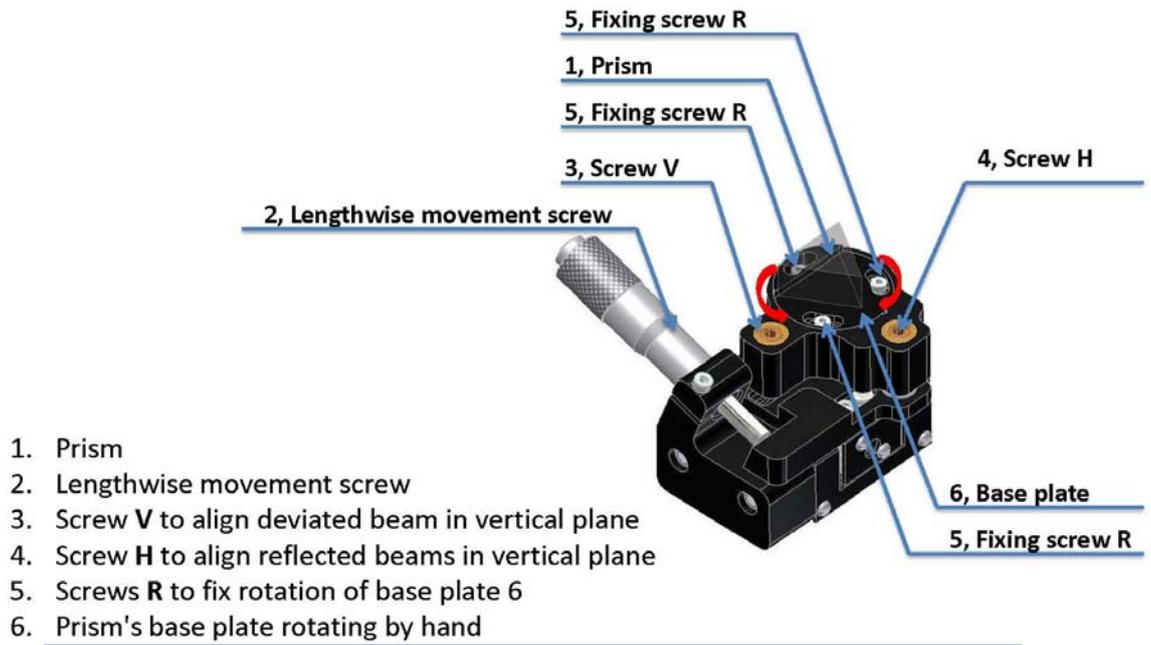

Fig. 12 Schematic picture of prisms fixation and service
- *Loosen but don't remove the rotation fixation screws R (**Fig. 12**).*
- *The heights of the beams should be at the same height as all beams in the resonator. If it is necessary use the adjusting screws to align the prism (see **Fig. 12**).*